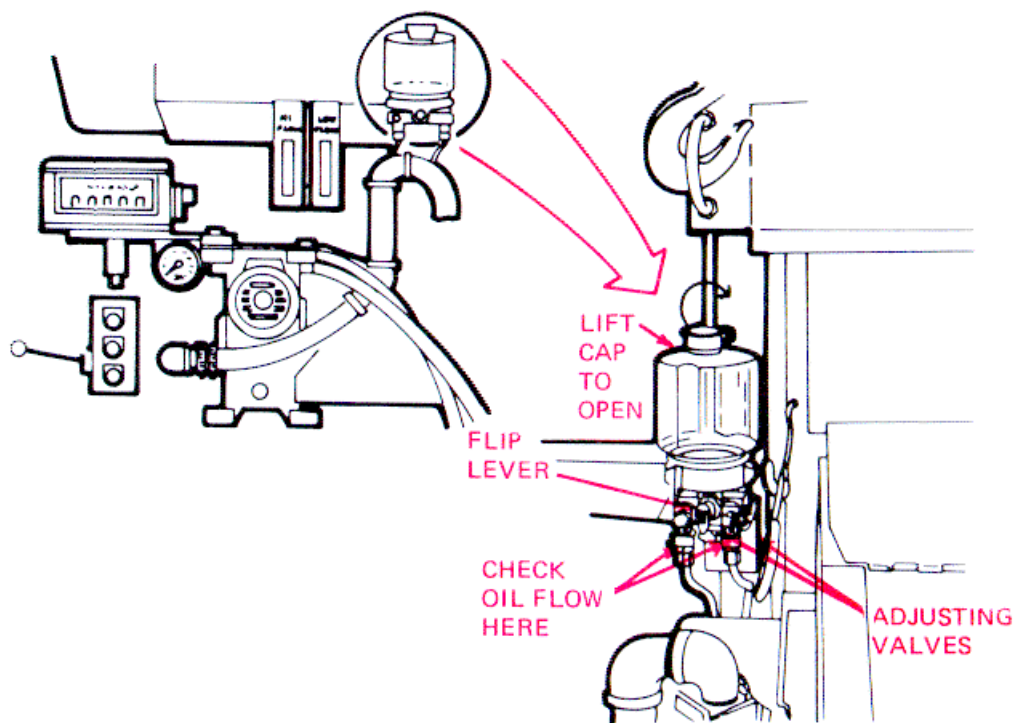

Figure 3-2. Chain Oiler.
b. Chain Oiler (See fig. 3-2.) The chain oiler should dispense oil at the rate of five drops per minute. Check the flow rate by observing the sight glass located under the unit as shown in figure 3-2. Adjustment is made during the production of concrete (para 2-12b (2)).